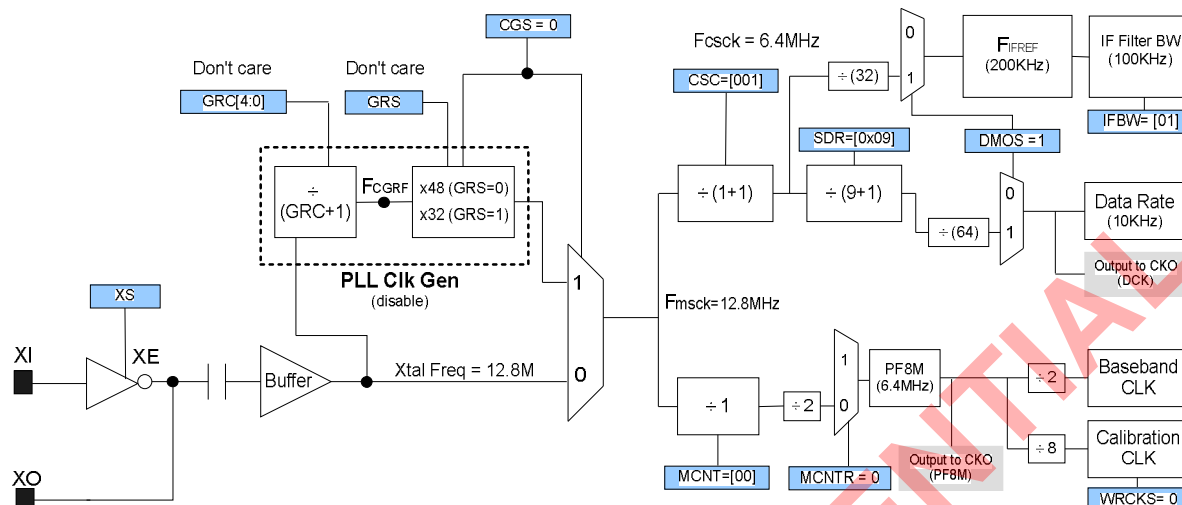

Figure 12.3 Configurations of 10Kbps when IFBW = 100KHz
5. If choosing IFBW = 100KHz, figure 12.3 illustrates the different results of CSC and F_{CSCK}.